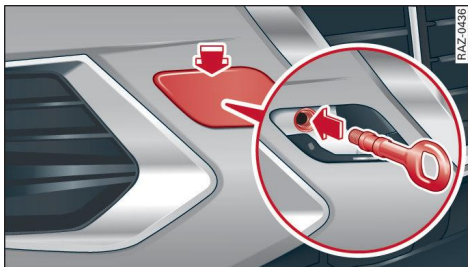

Fig. 180 Front bumper: Fitting the towline anchorage
- ▶ Firmly press the cap inwards briefly ⇒ *Fig. 180*. The cap will be released from the bumper.